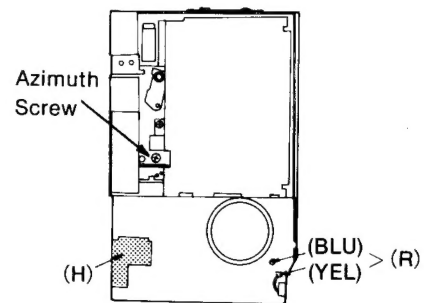

Fig. 6
### HOW TO REMOVE THE PRINT CIRCUIT BOARD (Shown in Fig. 6, 10~14)
3. Unsolder the motor lead wires (R). (Fig. 6)